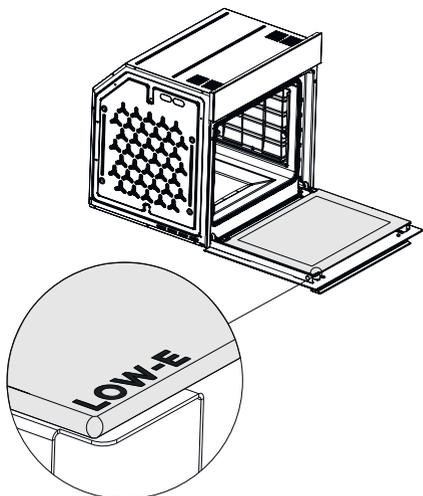

Fig. 33
*When the door of your oven is in horizontal position, the LOW-E inscription on the interior glass of your oven door shall be as shown in (Fig. 33)*